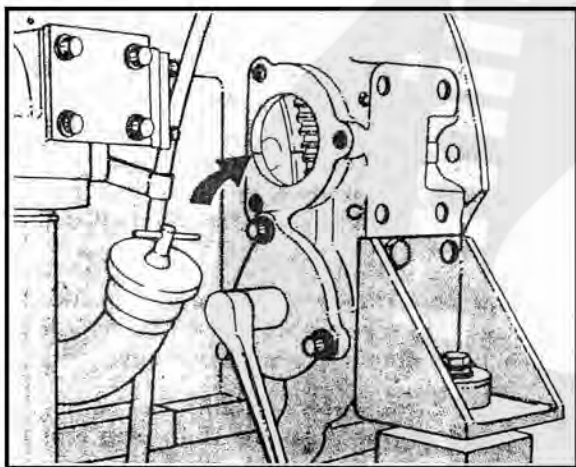

Fig. 2-22 Barring mechanism location "C"
The barring mechanism may be locked on either the left bank side or the right bank side at the flywheel housing (Fig. 2-22). The cover plate on opening "A" or "C", directly above the barring device, must be removed to see the "VS" valve set marks on the flywheel.
1. When barring an engine from the left bank side at the flywheel housing, the "VS" marks on the flywheel (Fig. 2-22), must be aligned with the scribe mark on the flywheel housing at the opening marked "C".